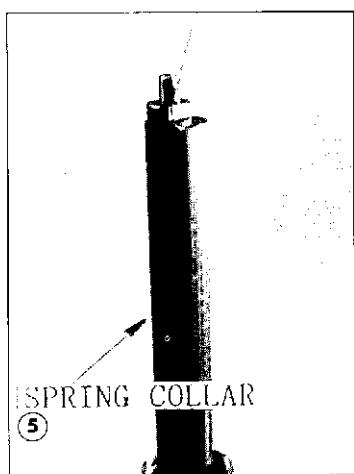

Fig. 10
- 17) Install a piece of wire (600 mm - 23.6 in. or more length) to the lock nut to pull up the piston rod (Fig. 10).